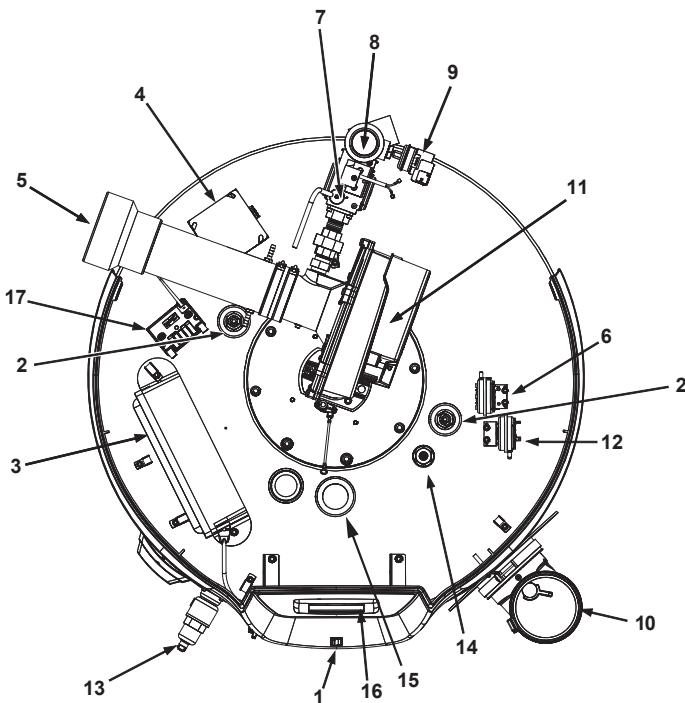

Figure 3. Top View
2. CCB enclosure. See *Figure 3* (page 10) for description.
6. Low Gas Pressure switch. See description under *Figure 3* (page 10). See *Table 4* (page 14) and the Gas Pressure Requirements on page 10.